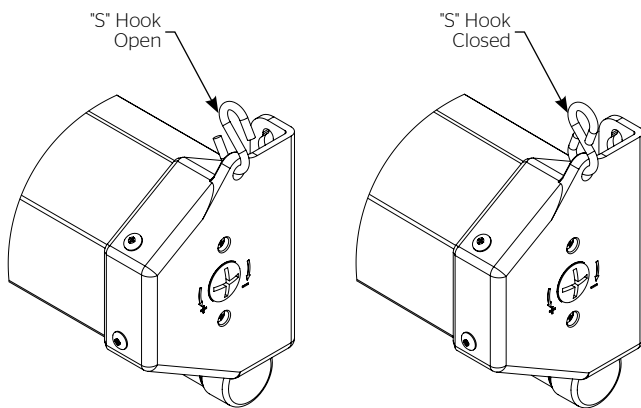

Figure 8
3. Install "S" hooks to screen mounting brackets. Hook through bracket and crimp closed both ends of "S" hook. (See Figure 8)